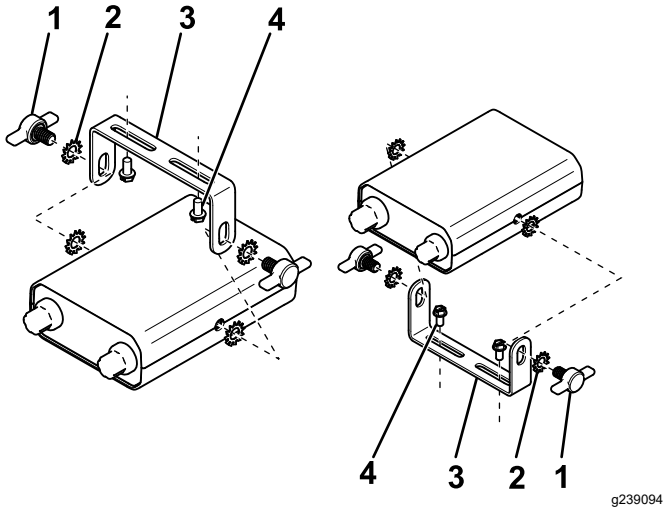

Figure 11
1. Attach the mounting bracket to the vehicle using 2 sheet-metal screws (Figure 11).
2. Attach the controller to the mounting bracket using 4 star washers and 2 thumbscrews (Figure 11).